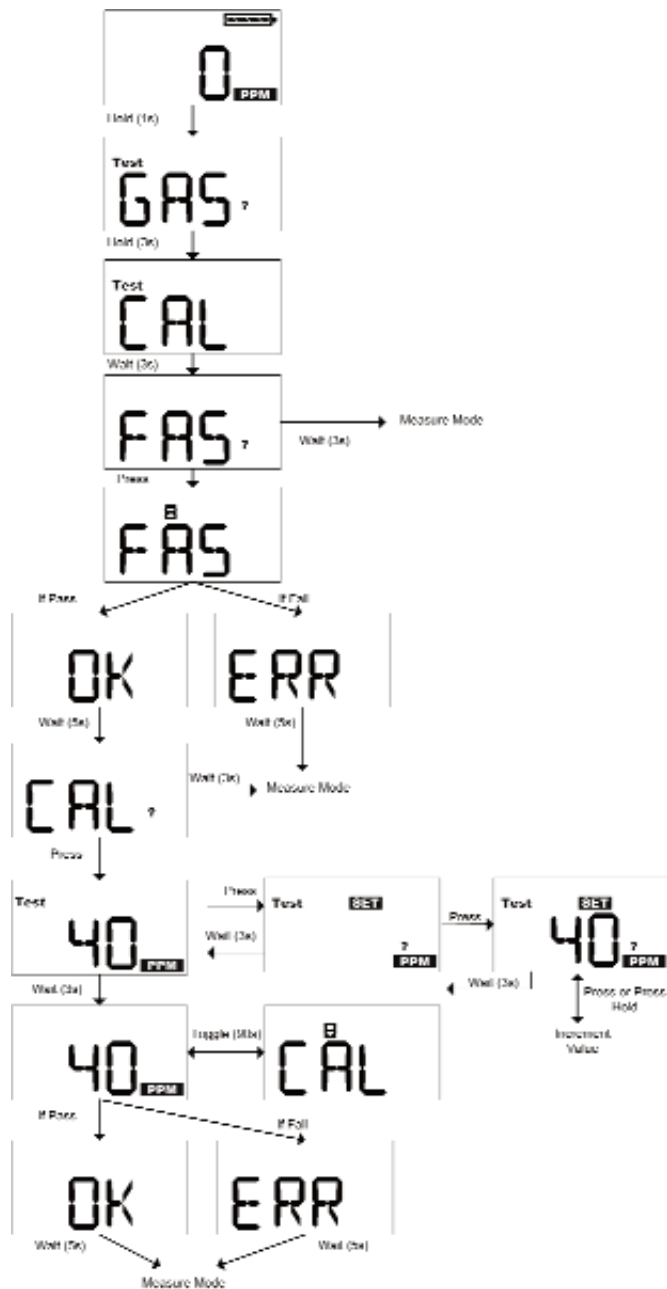

Figure 4-1. Calibration (Toxics) Flow Chart
- To enter the calibration mode, make sure you are in fresh, uncontaminated air. See FIGURE 4-1 for more details.